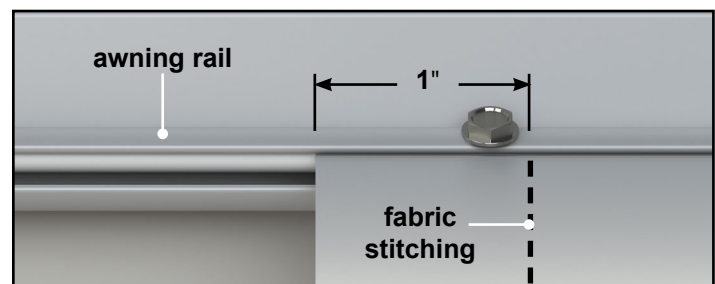

Fig.11
2. Secure the fabric in the awning rail no more than 1" inside the edge of the fabric on both ends using a #6 x $\frac{1}{2}$ " hex head screw. Install the screw down through the awning rail into the fabric and the polycord (Fig.11).
2. Remove the #6 x 1/2" hex head screws located on the awning rail (2 total). Set screws aside (Fig.11).